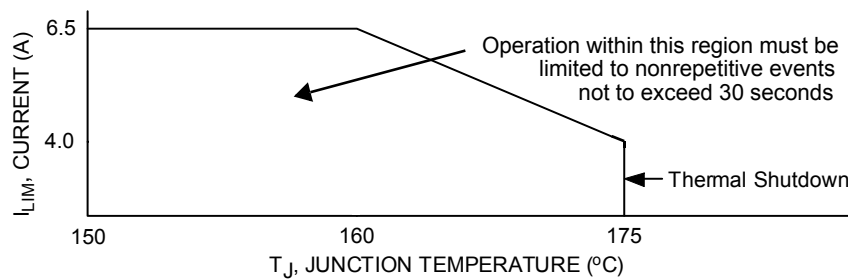
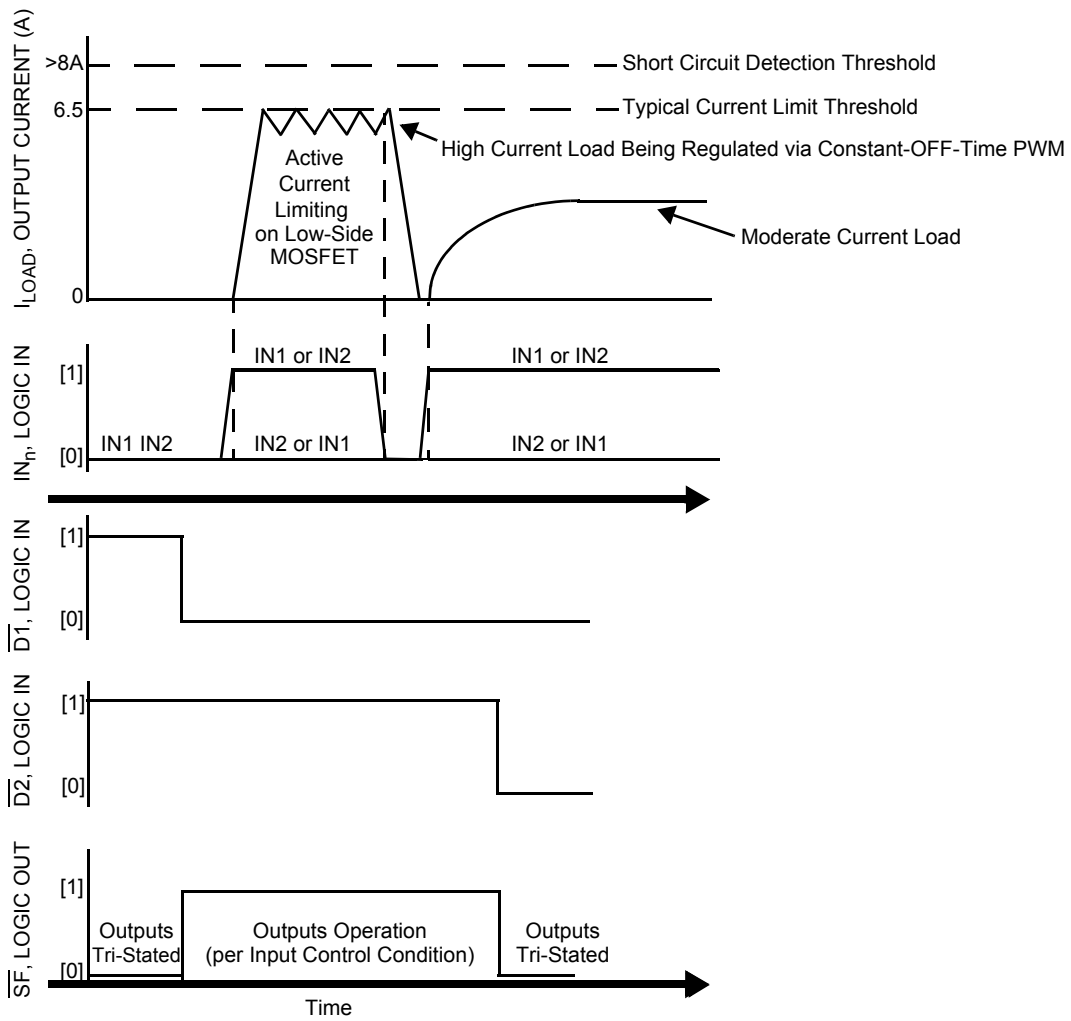

Figure 9. Active Current Limiting Versus Temperature (Typical)
Figure 10. Operating States
- 28 Load currents ramping up to the current regulation threshold become limited at the  $I_{\text{LIM}}$  value. The short circuit currents possess a di/dt that ramps up to the  $I_{\text{SCH}}$  or  $I_{\text{SCL}}$  threshold during the  $I_{\text{LIM}}$  blanking time, registering as a short circuit event detection and causing the shutdown circuitry to force the output into an immediate tri-state latch-OFF. See Figures 10 and 11, page 13. Operation in Current Limit mode may cause junction temperatures to rise. Junction temperatures above  $\sim 160^\circ\text{C}$  will cause the output current limit threshold to progressively “fold back”, or decrease with temperature, until  $\sim 175^\circ\text{C}$  is reached, after which the  $T_{\text{LIM}}$  thermal latch-OFF will occur. Permissible operation within this fold-back region is limited to nonrepetitive transient events of duration not to exceed 30 seconds. See Figure 9, page 12.
and overtemperature shutdown occurs (see Figure 9, page 12). This feature allows the device to remain operational for a longer time but at a regressing output performance level at junction temperatures above  $160^{\circ}\text{C}$ .